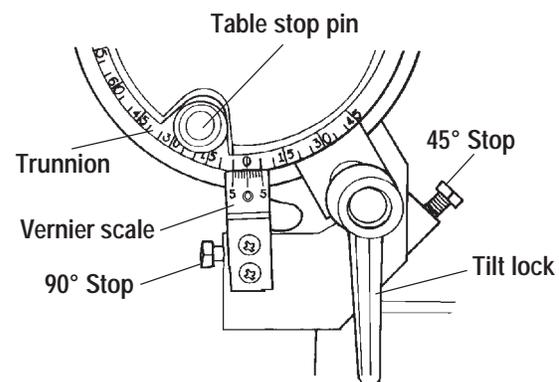

Figure C-79
angle,  $15^\circ - 17^\circ = 2^\circ$ . Tilt the table so that the 15° mark on the trunnion goes 2° past the 0° mark on the scale. See Figure C-79.
**e. To remount the worktable,** loosen the table height lock and place the support tubes in the carriage. For most operations, the trunnion (see figure C-79 should be facing the front of the Mark 7. For under-table operations such as the shaper, the trunnion should be facing the back of the Mark 7. Gently rock the table front-to-back until the racks engage the pinions and the tubes drop smoothly into the holes. Sometimes it helps to slowly turn the table height crank clockwise while you